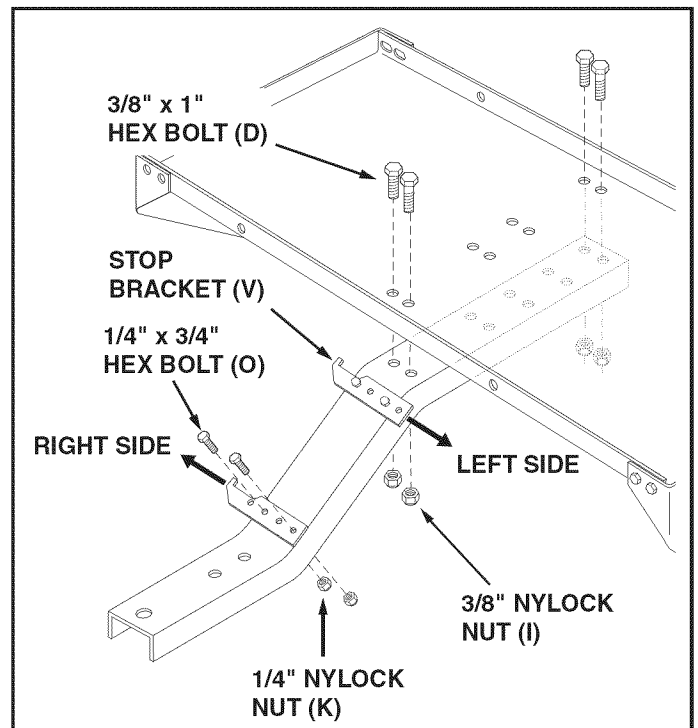

FIGURE 6
- Assemble the tongue to the tray using four 3/8" x 1" hex bolts (D) and 3/8" nylock nuts (I) as shown in figure 6. **Tighten.**
- Assemble the two stop brackets (V) to the tongue using four 1/4" x 3/4" hex bolts (O) and 1/4" nylock nuts (K). Position the bottom bracket as far to the right side as possible. Position the top bracket as far to the left side as possible. **Tighten.** See figure 6.